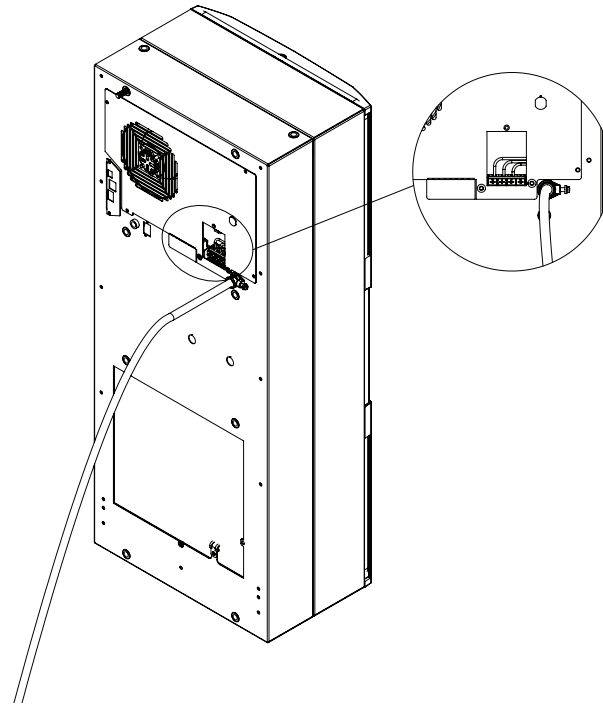

Figure 10
5. Tighten the screw on the strain relief to secure the supply wire, see Figure 10.